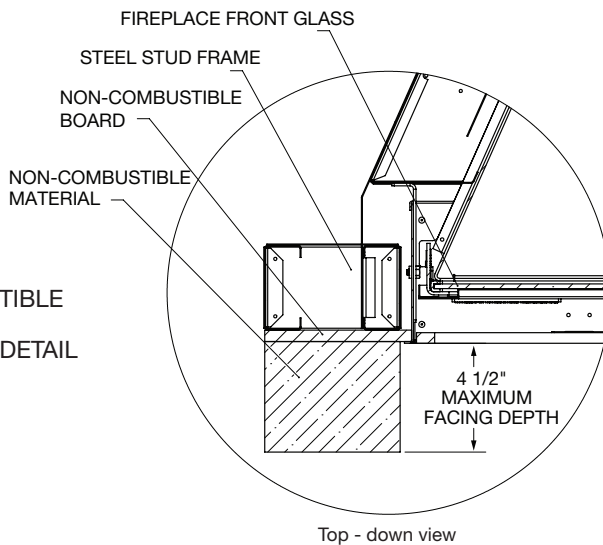

Figure 11: Recessed installation detail.
**CAUTION:** See Figure 11 on page 9 BEFORE PROCEEDING.